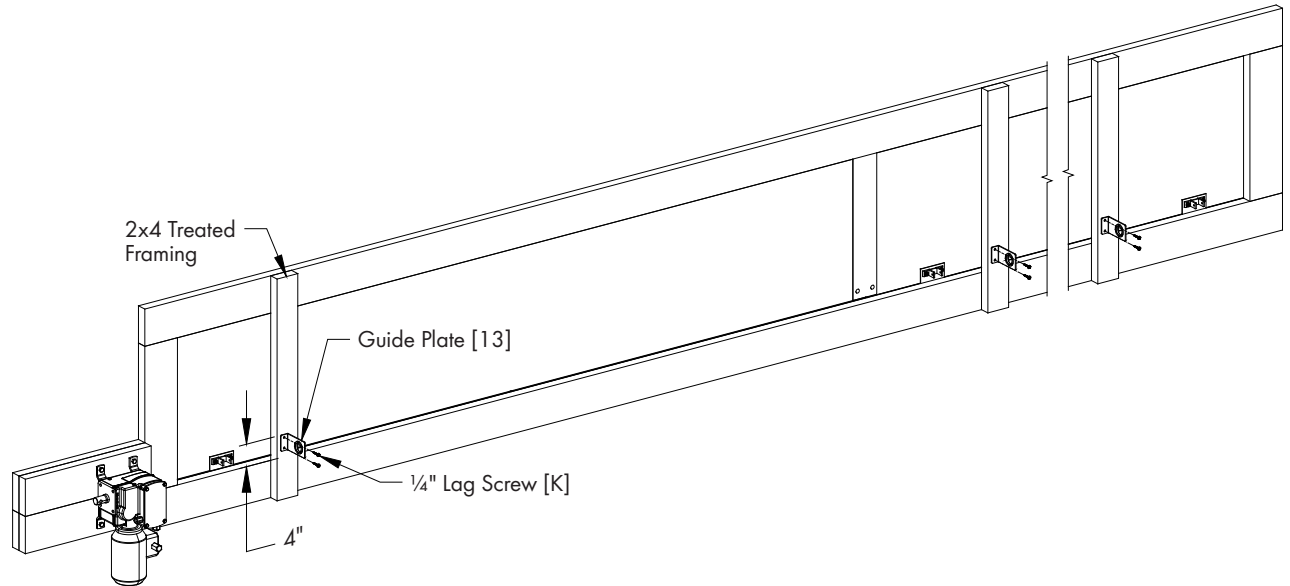

Figure 28
Secure (1) Guide Plate [13] to each 2x4 framing using (2) 1/4" Lag Screws [K], 4" above the top of the bottom framing. See Figure 28.